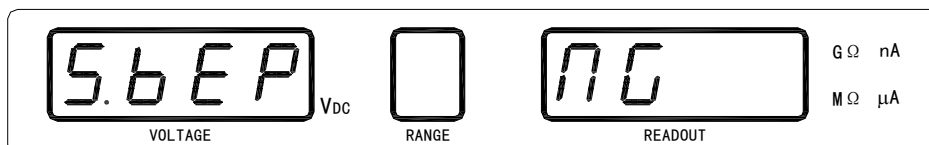

Figure 3-11 Beeper Mode Setup
- 1) Press **SET/ENTER** key in the measurement status to enter the beeper mode setup submenu directly, and the current beeper mode will be blinking in the readout window as shown in the following figure 3-11.